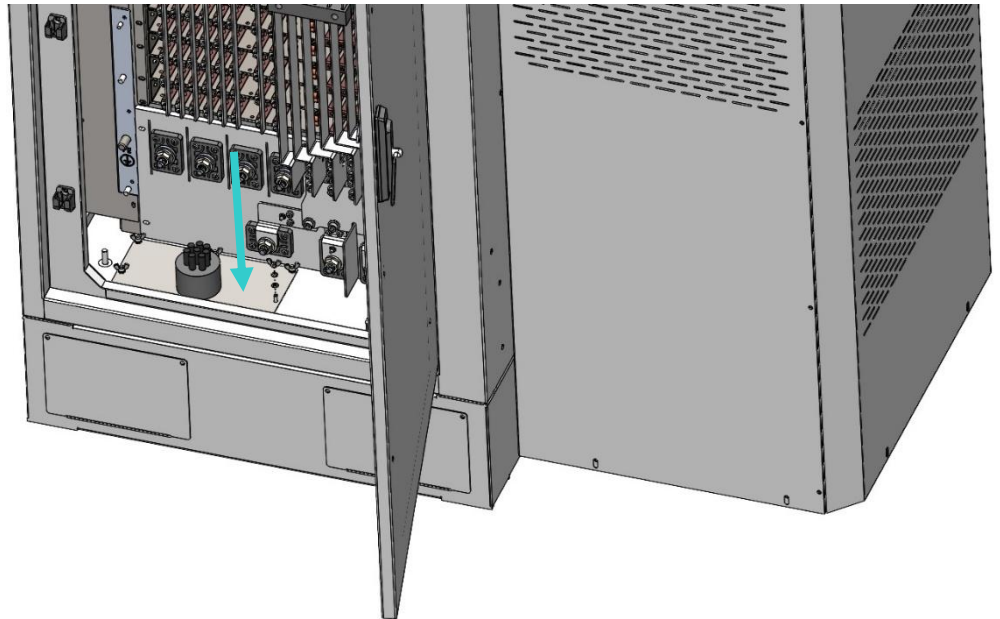

Figure 39 - Placement of Removeable Plate inside bottom of charger (optional Cable Gland not shown)
5. Inside the right-side door of the charger, slide the removeable plate (gasket-side down) over the AC power-in conduit/cable (Figure 39), taking care not to damage the gasket, and then lower the plate back onto the 8 small studs. We recommend using a cable gland (installer supplied), sized appropriately for the cable being fed through plate to complete this step OR using duct seal after re-securing plate to the charger in step 7.
6. Return the 8 sets of M5 wingnut, split washer, and flat washer to studs and hand-tighten to secure plate to charger (also Figure 39).